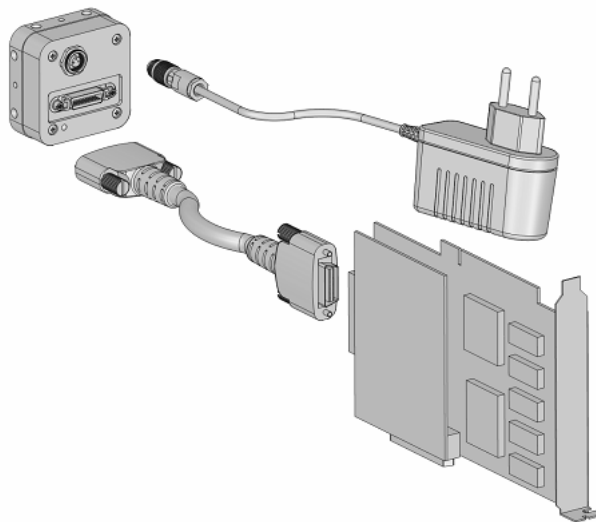

Figure 2.2: Camera with frame grabber, power supply and cable.
5. Connect the camera to the frame grabber with a suitable CameraLink® cable (see Fig. 2.2). CameraLink® cables can be purchased from Photonfocus directly ([www.photonfocus.com](http://www.photonfocus.com)). Please note that Photonfocus provides appropriate solutions for your advanced vision applications.
7. Connect the power supply to the camera (see Fig. 2.2).